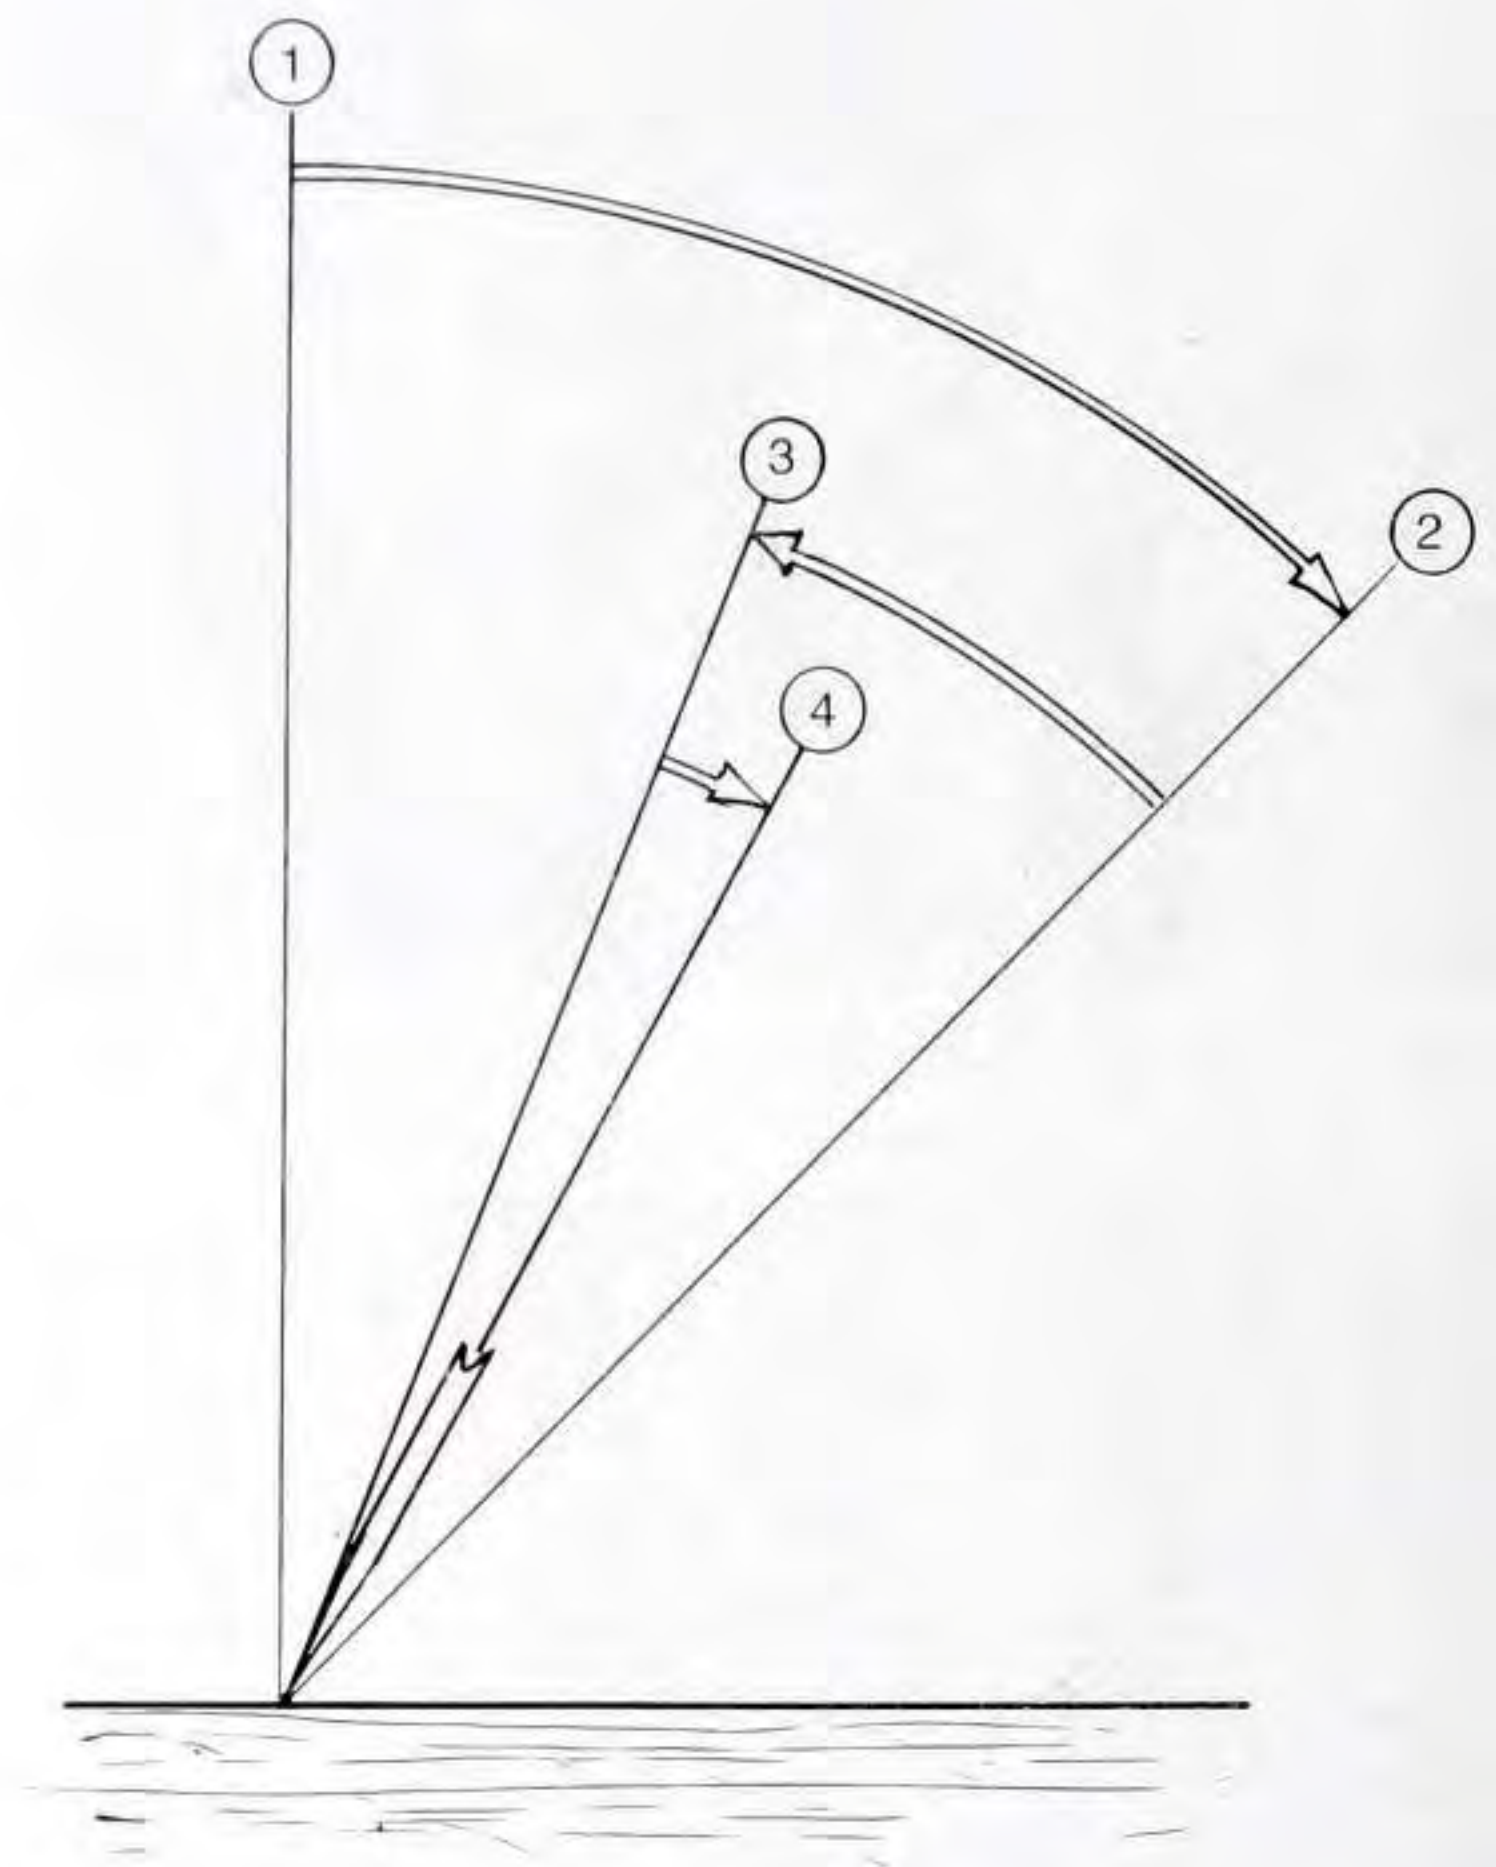

Fig 5.10 Achieving a 60° angle to the wood. (1) start vertically; (2) halve this to 45°; (3) halve this again, and then move the tool down a little more (4).
- 2 Refer to Fig 5.10. Start with the chisel dead upright, at 90° to the wood.